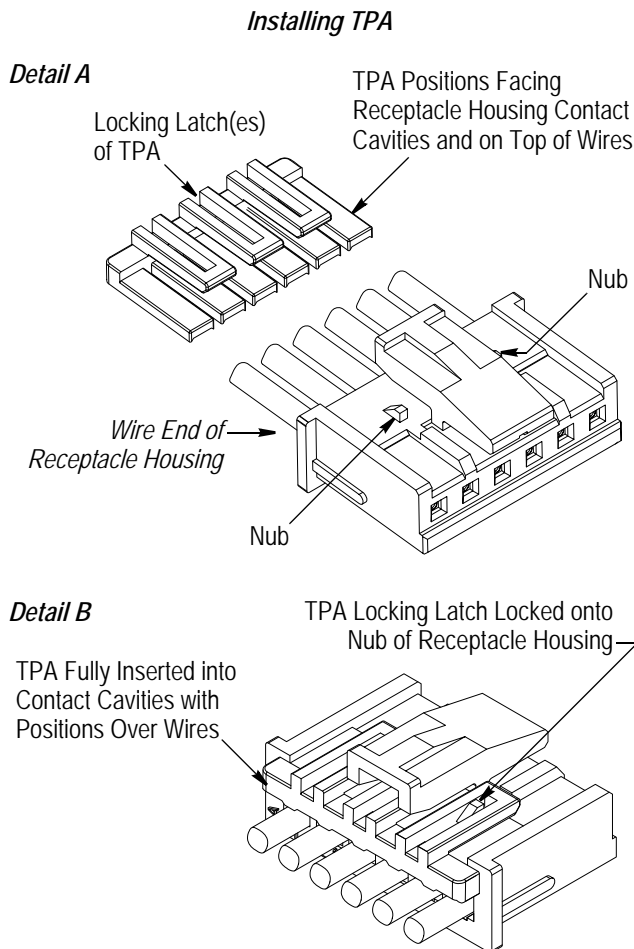

Figure 3
a. Align the TPA with the wire end of the receptacle housing so that each position faces a contact cavity and is on top of the wires. See Figure 3, Detail A.
b. Slide the TPA into the receptacle housing so that the positions enter the contact cavities evenly and until the locking latch(es) locks onto the nub(s) of the receptacle housing. There will be an audible and tactile “click”. See Figure 3, Detail B.